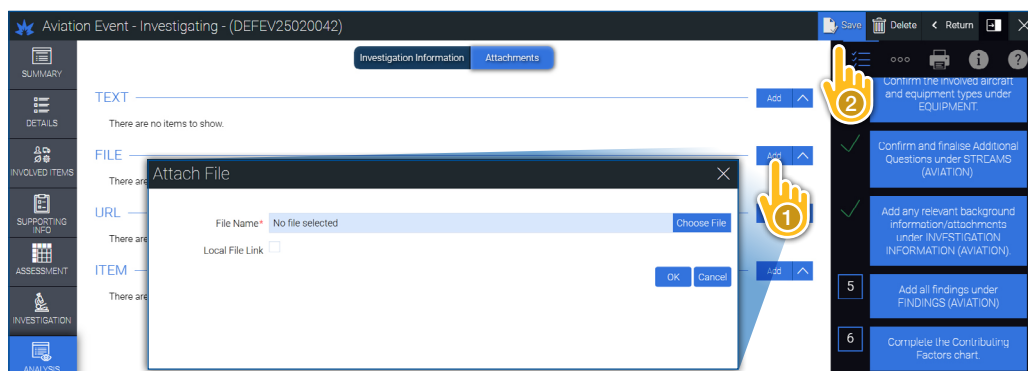

Figure 45: Investigation Information – Attach a File
- add the attachment to the report as a File via the Attachments tab (**Figure 45**)